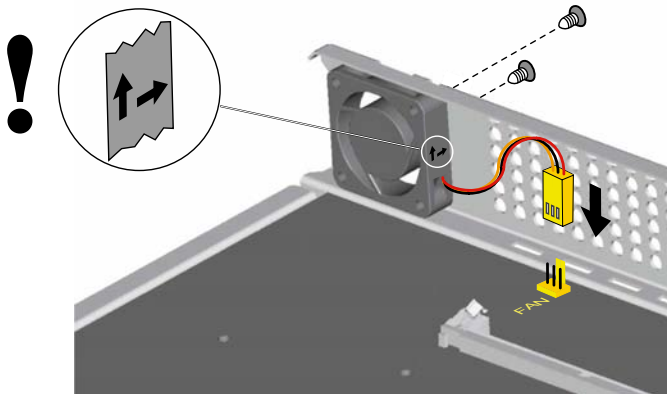

Fig. 23 Installing the fan in A300
3. Use the two screws to fit the fan to the inside of the housing. Take note of the arrows on the fan. They indicate the direction of rotation and the air flow. The air must flow out of the housing of the basic system (see Fig. 23).